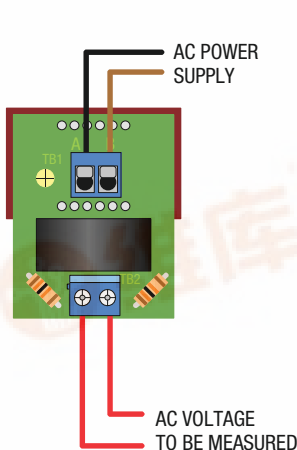
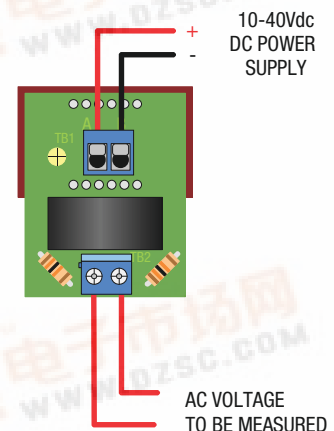

Figure 1A.
Figure 2.
- Power Supply Polarity, Fusing, and Grounding:** As shown in Figures 1A and 1B, the two power supply inputs, TB1-A and TB1-B, on ac-powered DMS-20RM voltmeters ("-AC1" suffix) are not polarity sensitive, that is, they have no "AC LO" or "AC HI" designations. Also, ac-powered models do not include or require a connection to earth/chassis ground. DC-powered models ("-DC2" suffix) are reverse-polarity protected, and must be connected as shown in Figure 2 for proper operation.